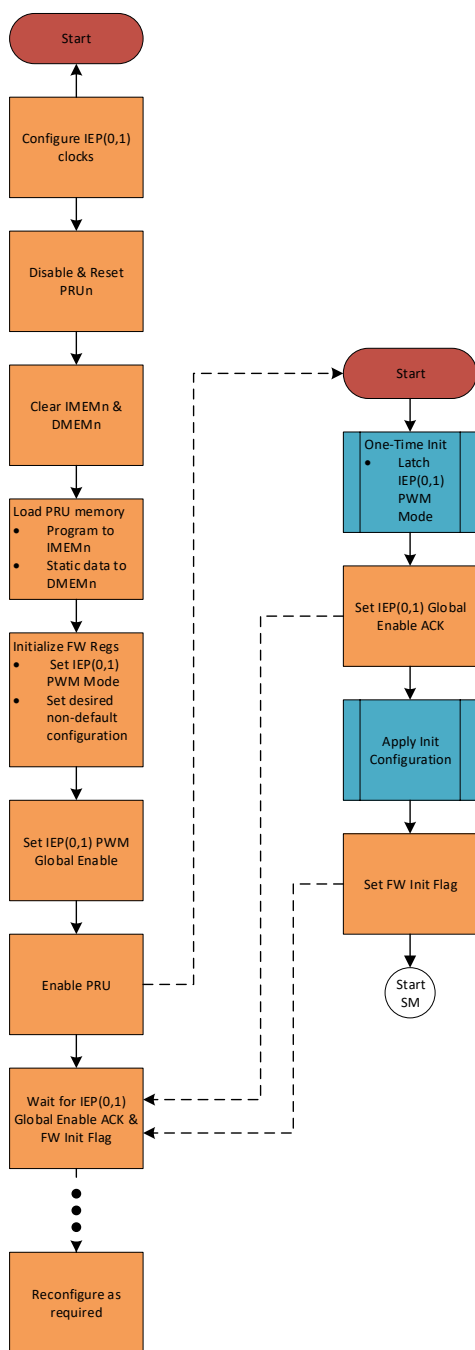
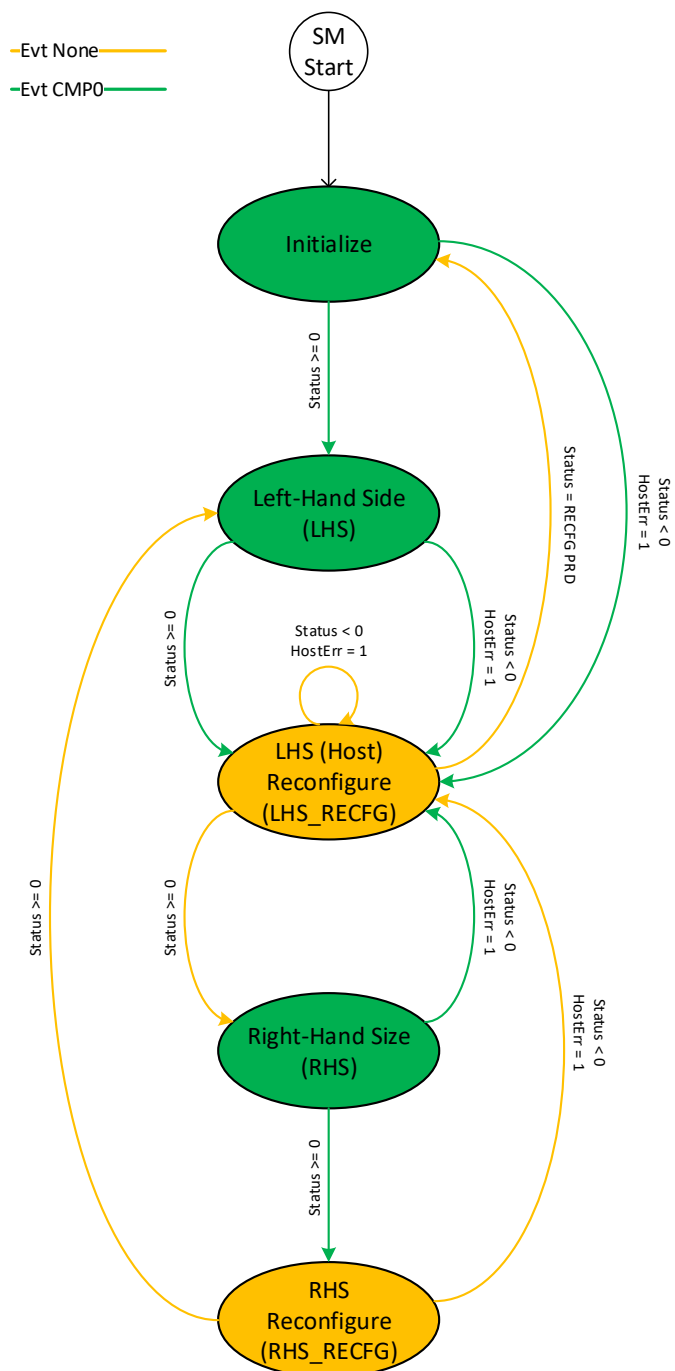
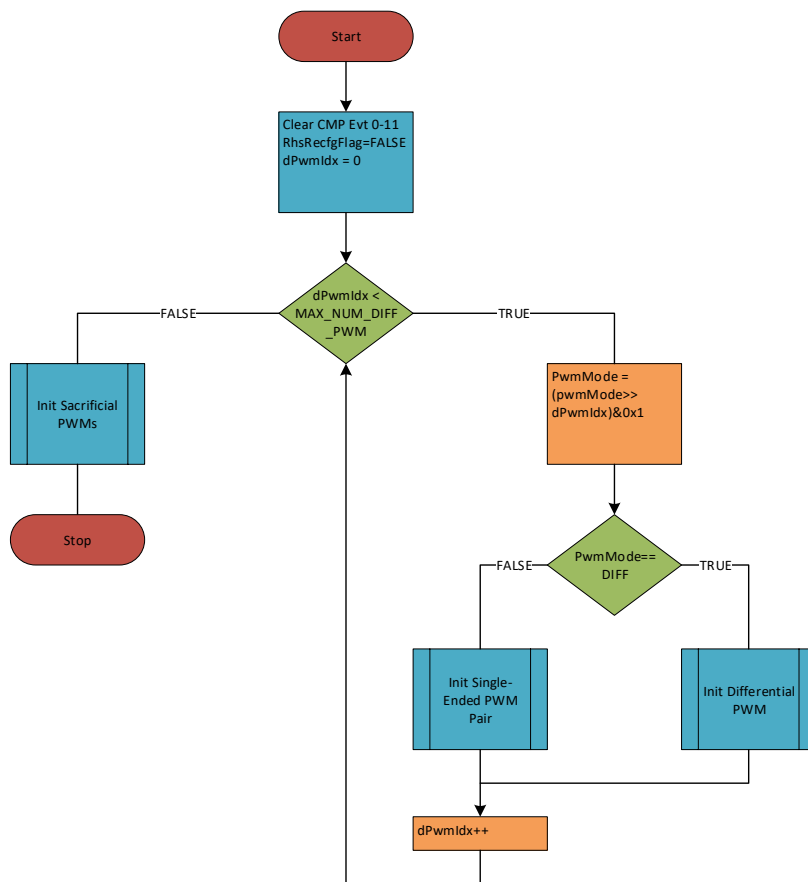
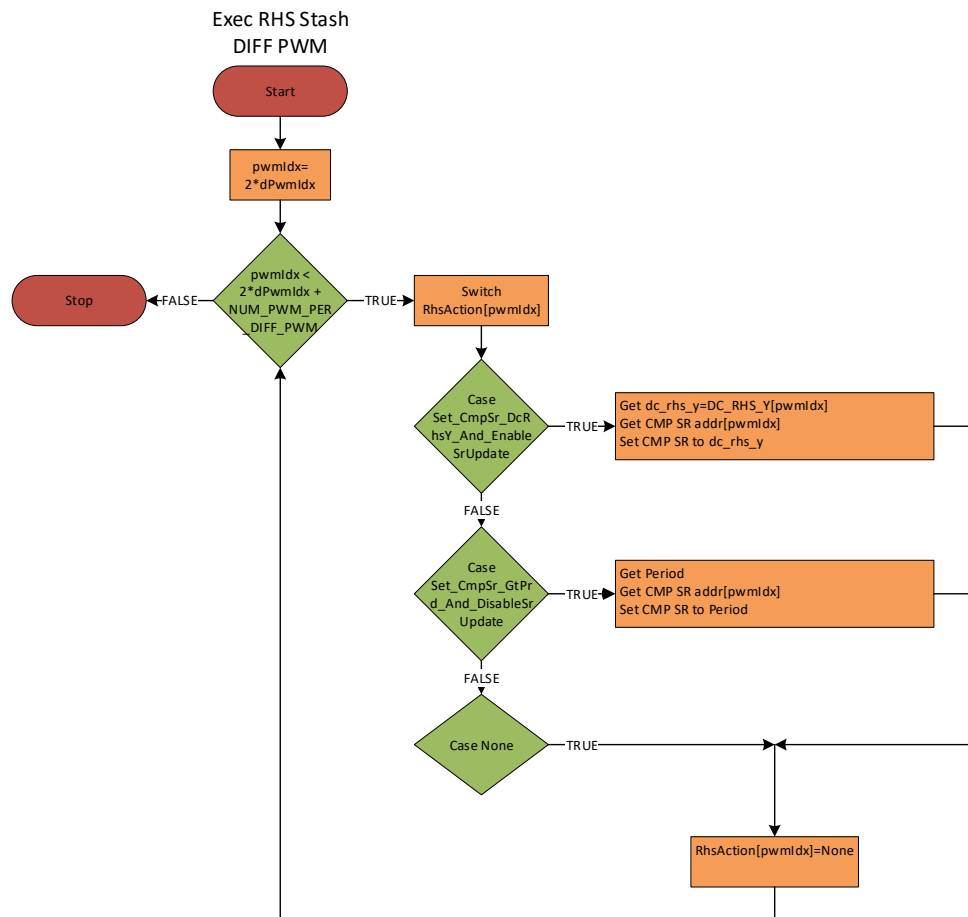

Figure 5. Firmware Initialization
Figure 8. Firmware State Machine
Figure 9. SM INIT State, Top-Level Flow Chart
Figure 21. SM RHS_RECFG State, Execute RHS Stash for CMPL PWM Flow Chart
Host and PRU interaction for FW initialization is shown below in Figure 5.
After One-Time Initialization and Application of the Initial Configuration (see Figure 5), the FW begins execution of the State Machine (SM). The SM includes five states, details of which are presented in Table 25. A diagram of the SM is presented in Figure 8, and detailed flow charts for all SM states are presented in Figure 9 - Figure 21.